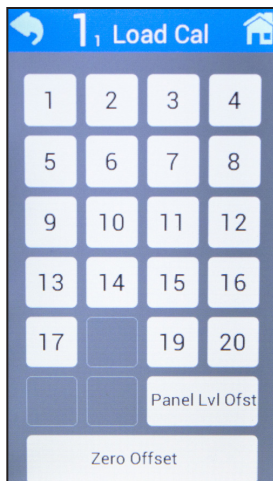
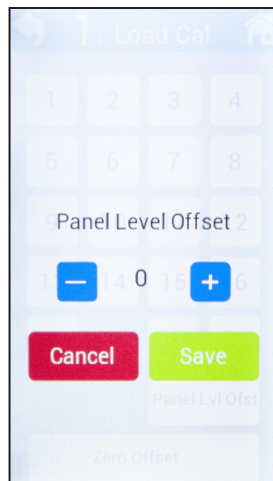

Figure 61. Load Calibration
Figure 62. Panel Level Offset
- To access load calibration, select the load calibration icon (⚙️) at the top of the screen. The Load Cal screen will appear with all 22 breakers shown. Select the breaker to be calibrated (see Figure 61). The individual breaker calibration screen will then appear with load data, breaker position, and manual offset adjustment. Tap the (-) or (+) buttons to manually adjust offset by 10A (see Figure 62).